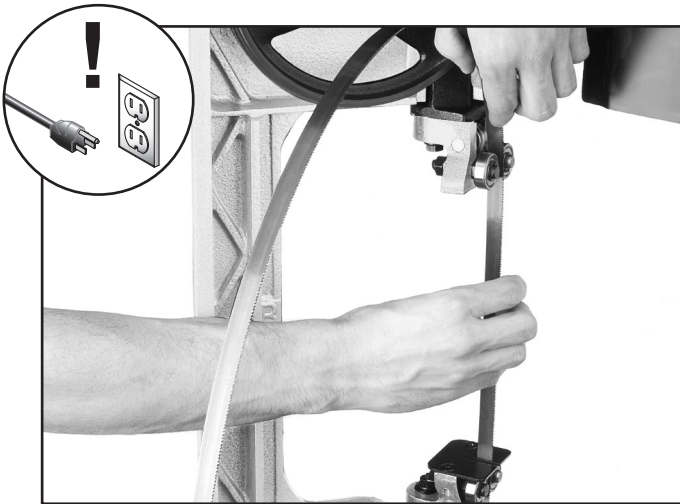

Figure 42. Installing blade.
4. Install the new blade through both blade guide bearings as shown in **Figure 42** and around the bottom wheel.